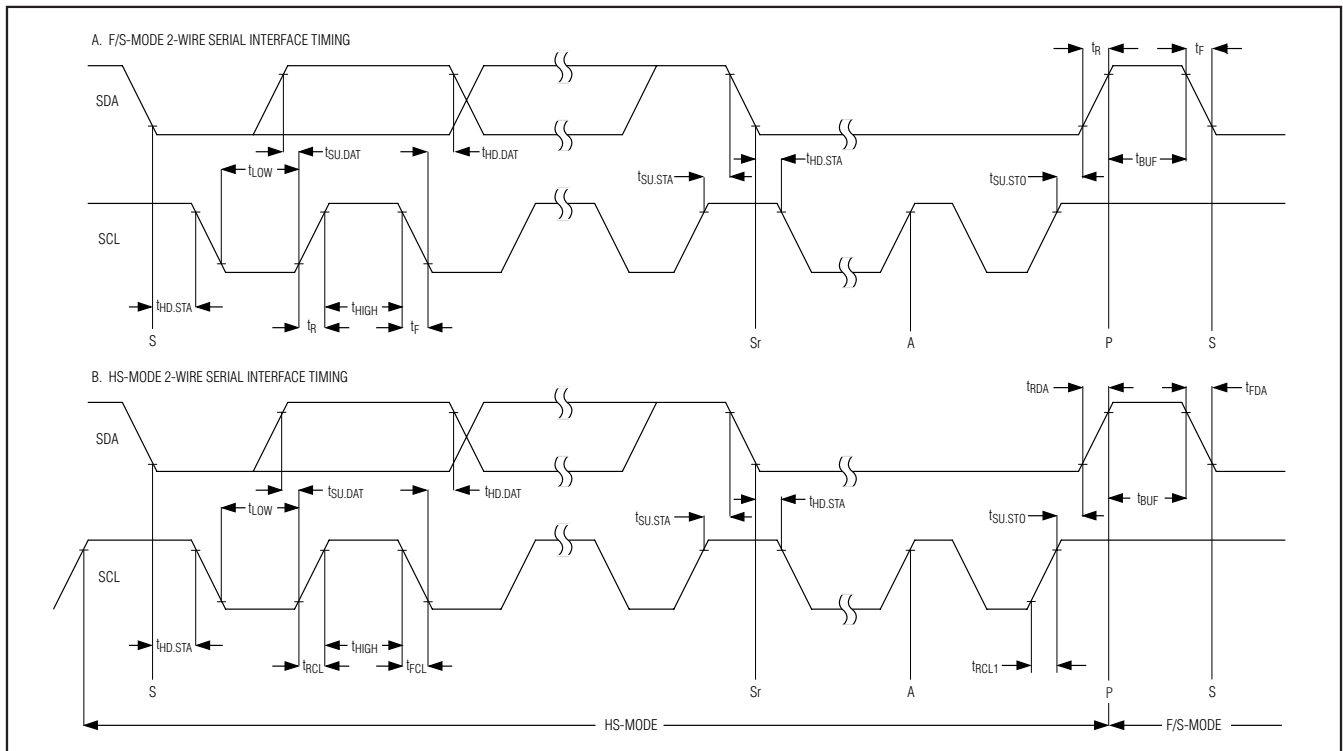

Figure 1. 2-Wire Serial-Interface Timing
### TIMING CHARACTERISTICS (Figure 1)
## TIMING CHARACTERISTICS (Figure 1) (continued)
**Note 10:** A master device must provide a data hold time for SDA (referred to VIL of SCL) to bridge the undefined region of SCL's falling edge (see Figure 1).
up to 22.2ksps. The MAX11606–MAX11611 must operate in high-speed mode (HS mode) to achieve conversion rates up to 94.4ksps. Figure 1 shows the bus timing for the MAX11606–MAX11611's 2-wire interface.